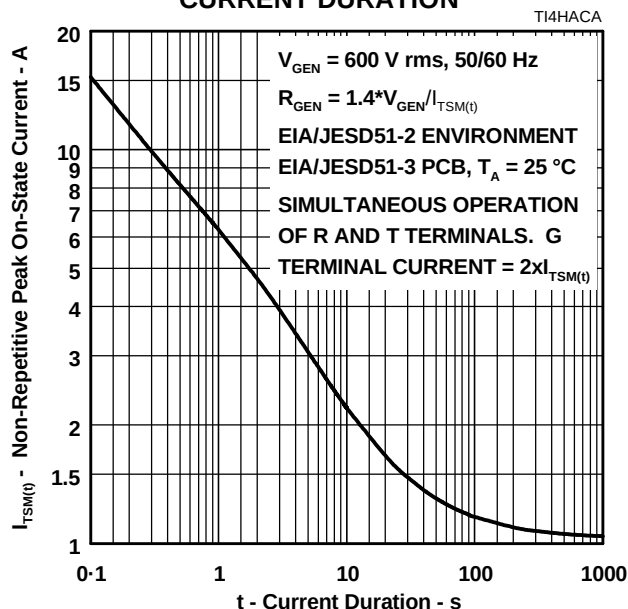

Figure 8.
5. EIA/JESD51-2 environment and EIA/JESD51-3 PCB with standard footprint dimensions connected with 5 A rated printed wiring track widths. See Figure 8 for the current ratings at other durations. Figure 8 shows the R and T terminal current rating for simultaneous operation. In this condition, the G terminal current will be $2 \times I_{TSM(t)}$, the sum of the R and T terminal currents. Derate current values at $-0.61\% / ^\circ\text{C}$ for ambient temperatures above 25°C .
The protector can withstand the G return currents applied for times not exceeding those shown in Figure 8. Currents that exceed these times must be terminated or reduced to avoid protector failure. Fuses, PTC (Positive Temperature Coefficient) resistors and fusible resistors are overcurrent protection devices which can be used to reduce the current flow. Protective fuses may range from a few hundred milliamperes to one ampere. In some cases it may be necessary to add some extra series resistance to prevent the fuse opening during impulse testing. The current versus time characteristic of the overcurrent protector must be below the line shown in Figure 8. In some cases there may be a further time limit imposed by the test standard (e.g. UL 1459 wiring simulator failure).